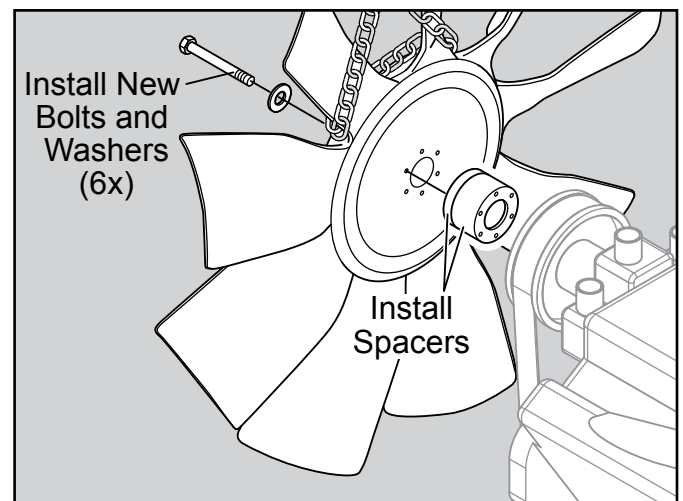

Figure 12. Installing Fan Bolts
11. Manually install the six new 7-inch bolts and washers through the holes on the fan and through the holes on the two spacers. See Figure 12.